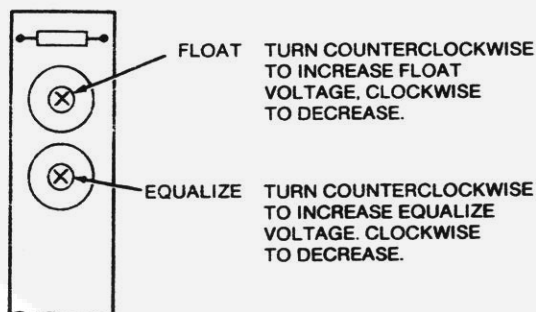

FIGURE 4. FLOAT AND EQUALIZE CHARGE ADJUSTMENTS
- C. Turn the float adjustment potentiometer (Figure 4) counterclockwise to increase float voltage and clockwise to decrease float voltage. Refer to Table 1 for the recommended set voltage.
- C. Turn the equalize-adjust potentiometer clockwise (turn in small amounts, see Figure 4) to decrease the voltage.
- C. Turn the equalize-adjust potentiometer (Figure 4) counterclockwise (turn in small amounts) to increase voltage. This will also cause the charge current (amperes) to increase.